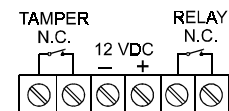

Figure 6. Terminal Block Wiring
- B. Using #22 AWG or larger wires, connect the wiring to the terminal block in the following order. Refer to Figure 6.